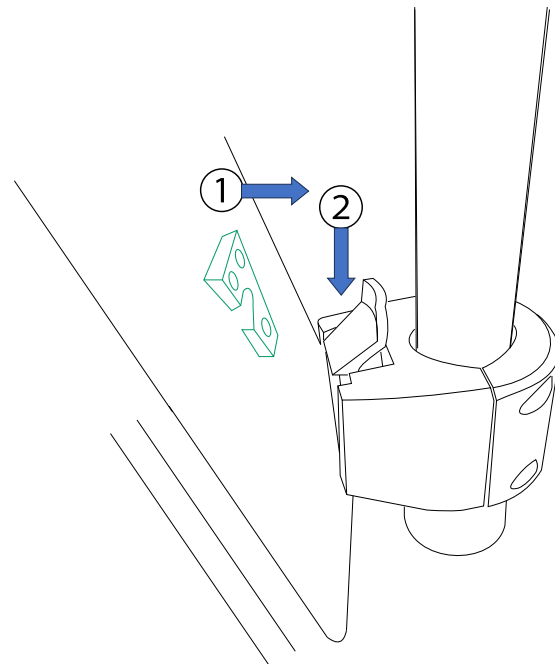

Figure 1-3 Insert v-mount into the Datalogger mounting bracket.
3. Attach Datalogger to the monopod by sliding the v-mount into the mounting bracket until it clicks. See Figure 1-3